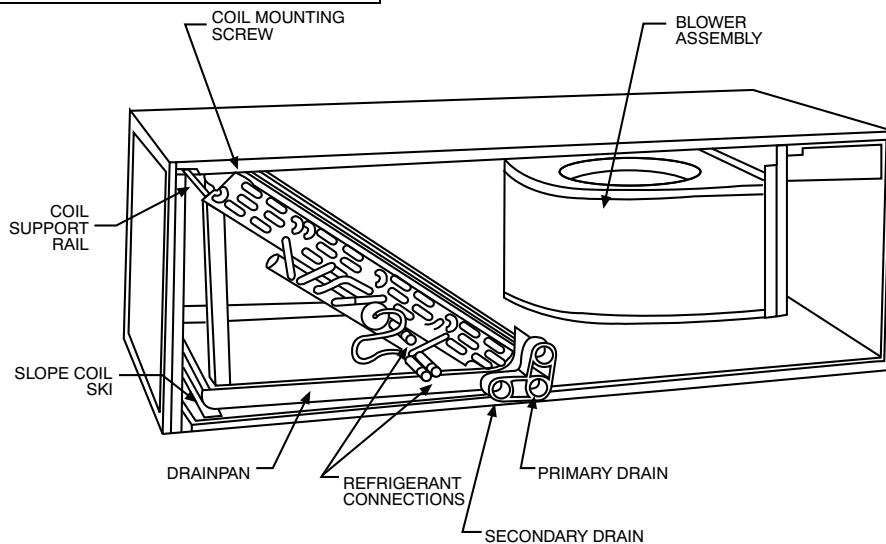

Fig. 6 – Slope Coil in Horizontal-Right Application
1. Remove blower and coil access panels (see Fig. 6).
- b. Remove air splitter (B) from coil seal assembly by removing 3 screws (see Fig. 6 - factory-shipped inset).
- c. Remove filler plate (A) and install air splitter (B) in place of filler plate.
- d. Install filler plate (A) as shown in horizontal right application.
- e. Remove condensate troughs (C) and install on opposite tube sheets.